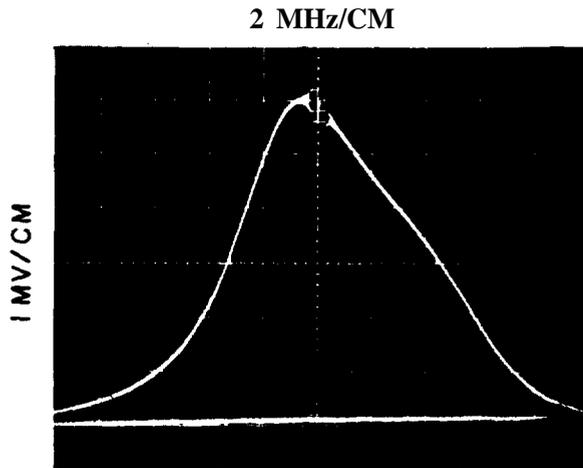
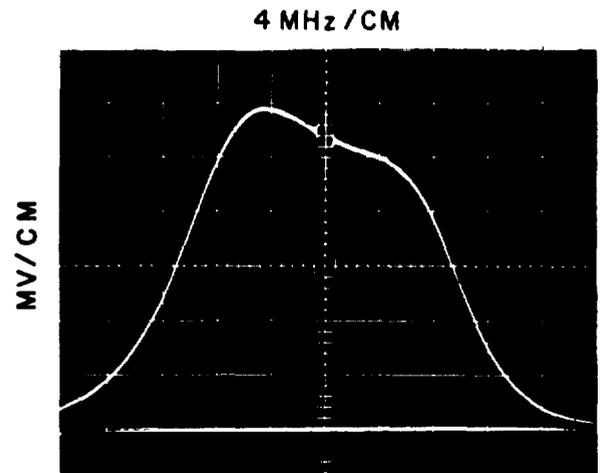

Figure 4-17. Typical Response,
Figure 4-18. Typical Response,
- (7) To adjust coils L18 and L20 in the following steps requires unsoldering them from the stators. When doing so, observe the caution given in paragraph 4.7.1.2.
- (8) Adjust L18 and L20 for a maximum amplitude, symmetrical response centered on the marker.
- (9) Adjust the tap position of L19 on both L18 and L20 for a response as shown in Figure 4-17.
- (10) If necessary, adjust the tap point of L17 on L18 and of L20 on L21 for the  $6 \text{ MHz} \pm 1 \text{ MHz}$  3 dB bandwidth. In each case the tap point should be approximately 1/4 turn above L9 and together they should be maintained the same relative distance from L19.
- (11) Rotate the tuner shaft fully clockwise and set the sweep generator to 500 MHz.
- (12) Adjust C38, C39, C53 and C54 for a symmetrical response as shown in Figure 4-18.